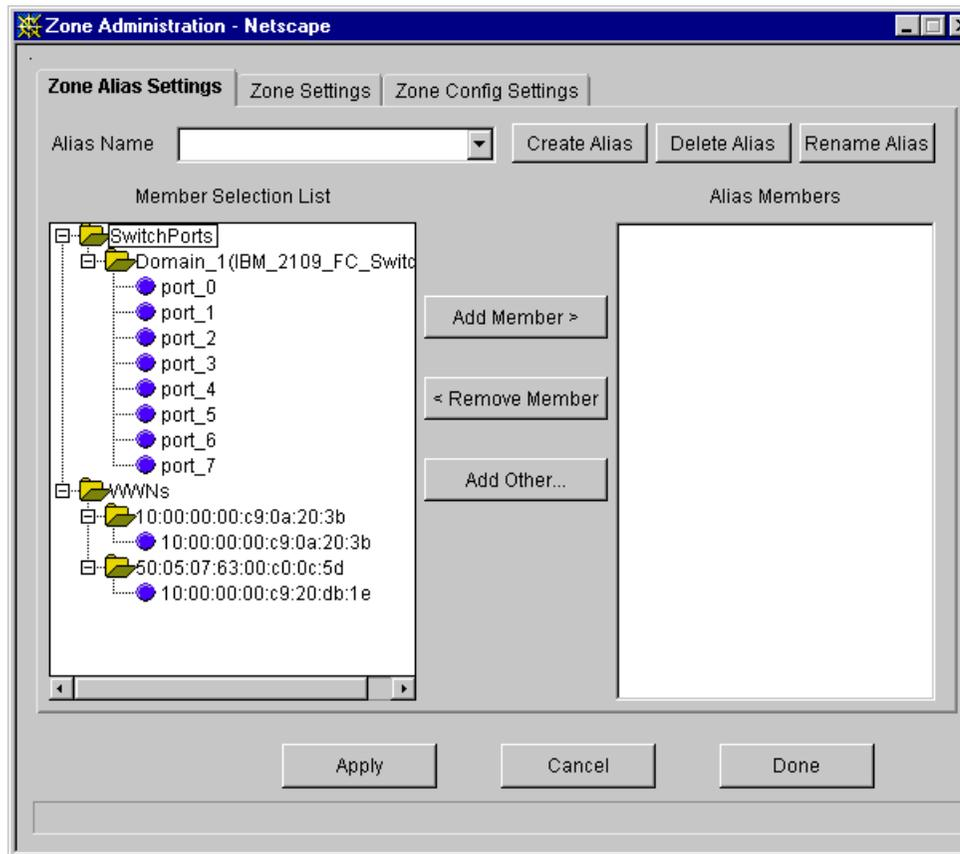

Figure 134. Zone alias settings
2. From this view, we clicked the Zone administration button at the bottom. Once this was done, we were presented with the view shown in Figure 134.